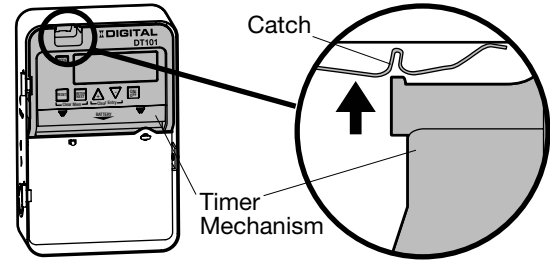

FIG. 1 Removing the Mechanism
1. Remove the mechanism from the case by depressing the catch at the top of the case and pulling out, as shown in FIG. 1.